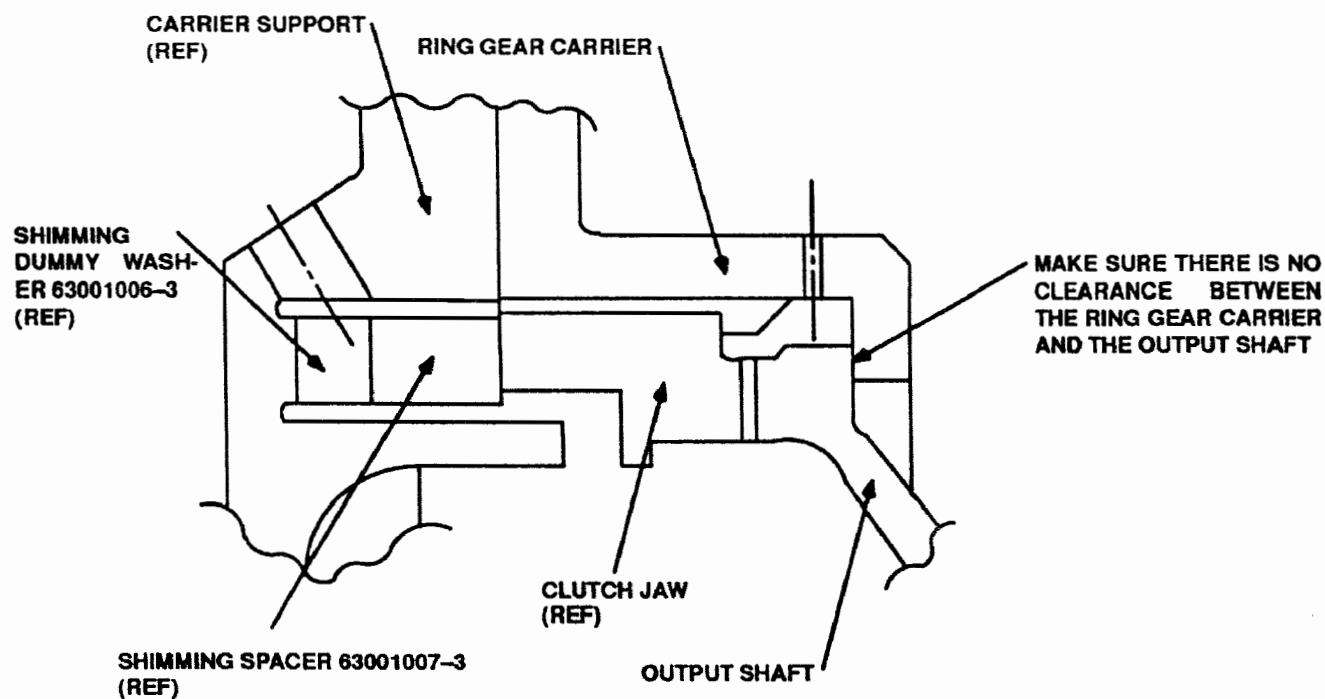

Figure 6. Clearance Between the Ring Gear Carrier and the Output Shaft
- 22** Install the shimming dummy washer, part number 63001006-3, into the carrier support, part number 813389-1. Refer to Figure 6.
- 23** Install the shimming spacer, part number 63001007-3, into the carrier support. Refer to Figure 6.
- 25** Make sure there is no clearance between the ring gear carrier and the output shaft. Refer to Figure 6.
- 8 Make sure there is no clearance between the ring gear carrier and the output shaft. Refer to Figure 6.